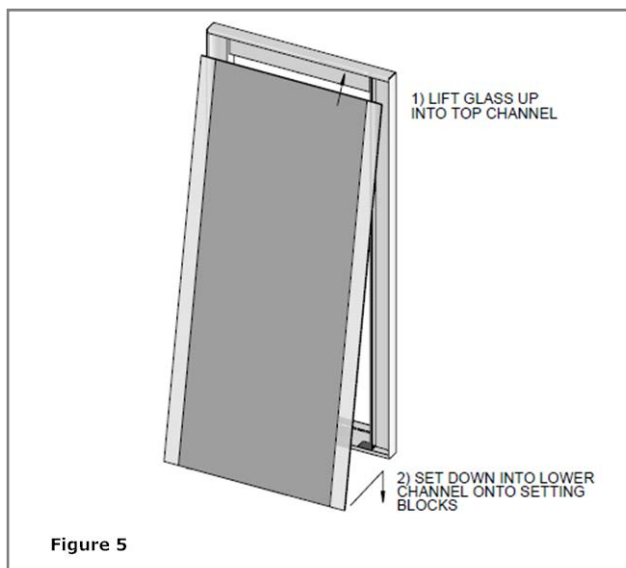

Figure 5
6. Using vacuum glass cups, install the mirror by lifting it up into the top channel, then down into the lower channel and onto the setting blocks. **See Figure 5**